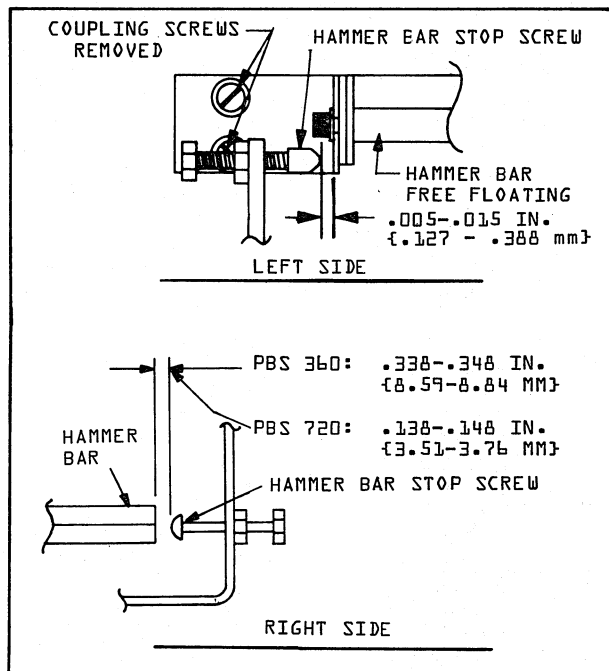

FIGURE 5-19. HAMMER BAR HOME POSITION
13. Using a ruler, check that the distance between the hammer bar and the hammer bar stop screw on the right side is as shown in Figure 5-19.